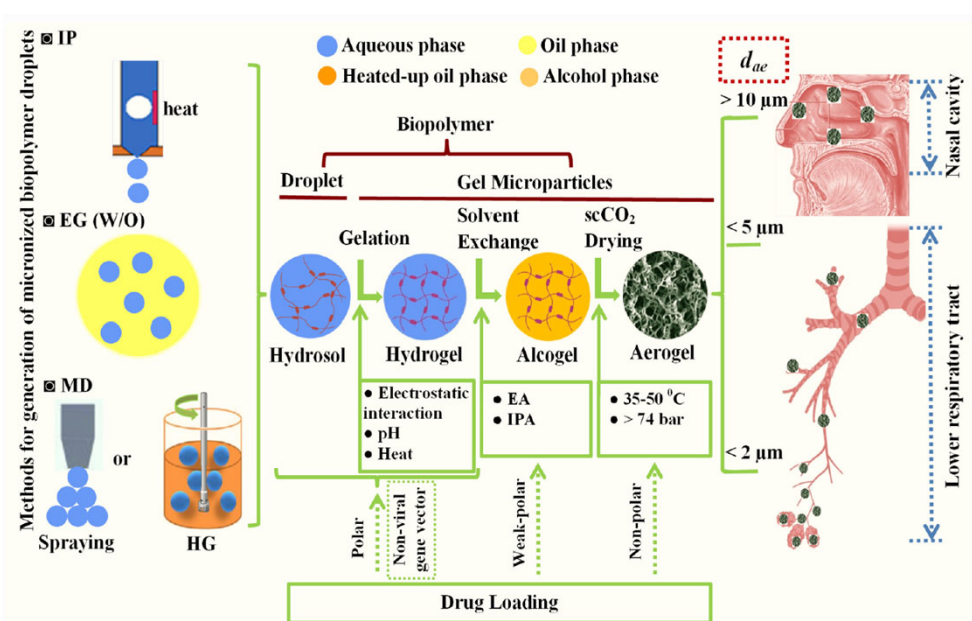

Fig. 2. The technical process to prepare drug-loaded BAMs for respiratory drug delivery
Figure 2. Synthesis of wood aerogels. Top left-hand side, Native wood (NW) exhibits its neighboring fibers with empty centers (up) and bottom image shows the long empty fibers in the axial direction of wood. The following are illustrations of NW treatment. In the upper right-hand side image, nanofiber networks homogeneously fill the fiber centers in wood. Bottom right-hand side image shows complete filling of all fibers in axial direction of the wood aerogel.
Figure 2. Regulation principle of the PVA molecular chain structure induced by the citrate anion due to the salting-out effect. (a) Interaction between the PVA chain and the water molecule; (b) interaction between the citrate anion and the PVA chain; (c) principle of aggregation among the PVA chain, citrate anion, and water molecule.